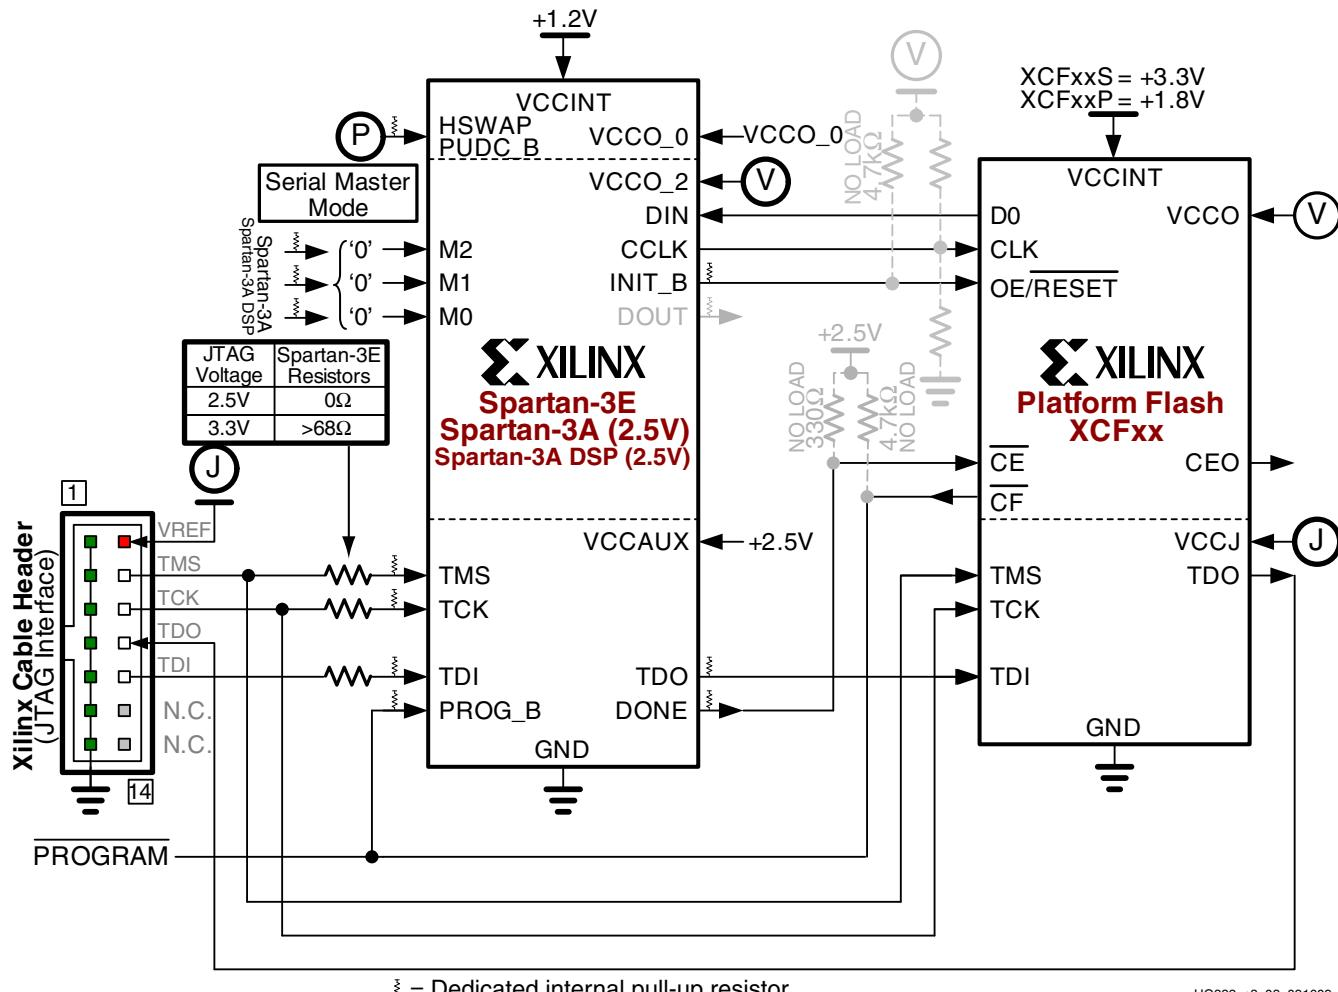
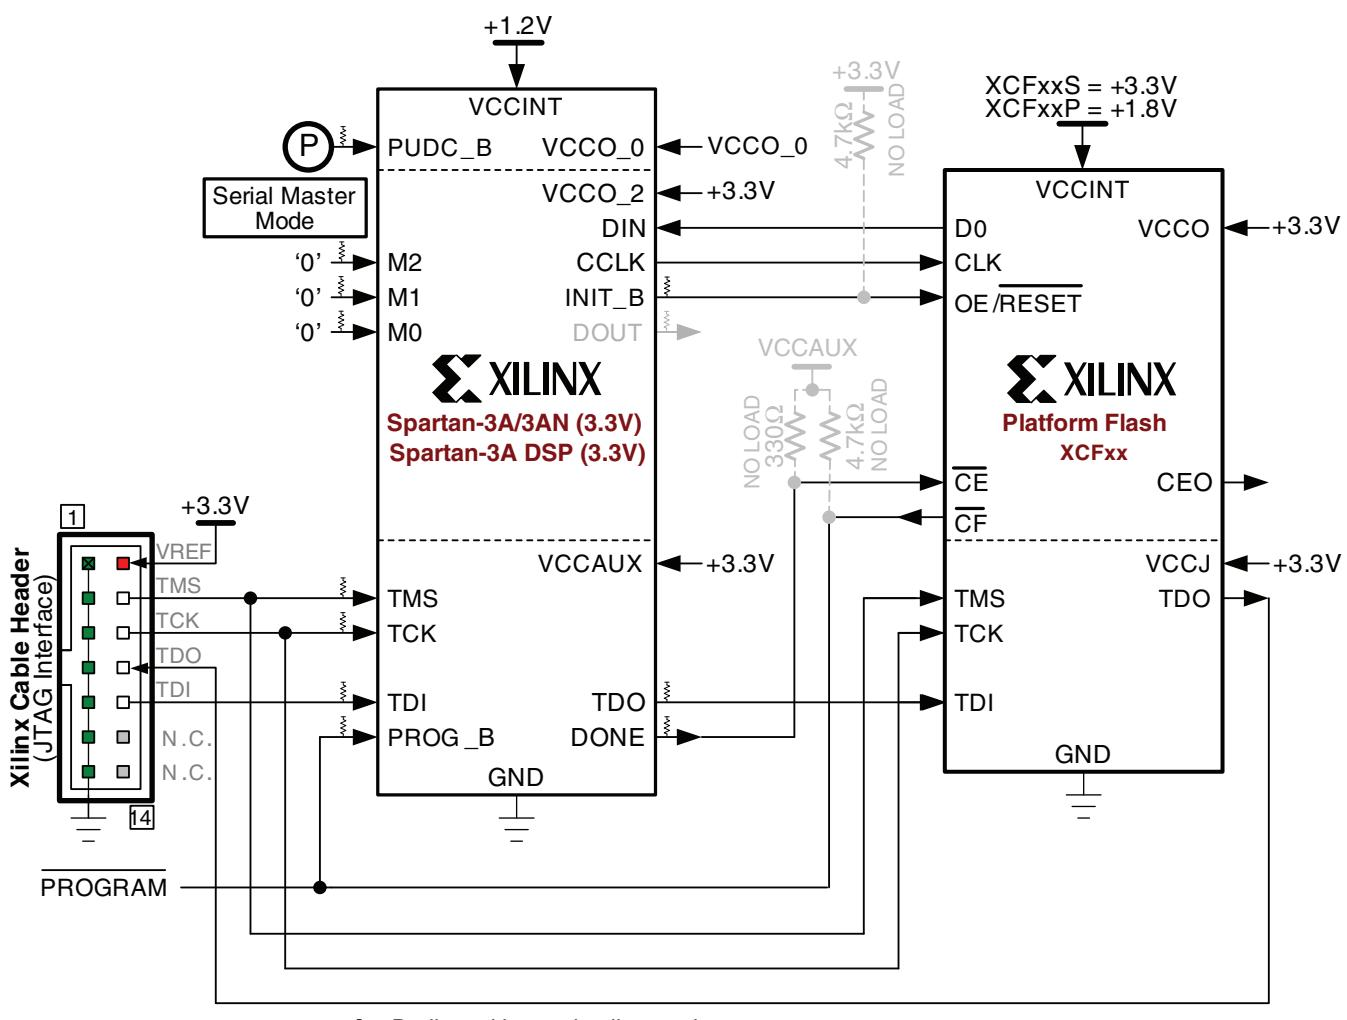
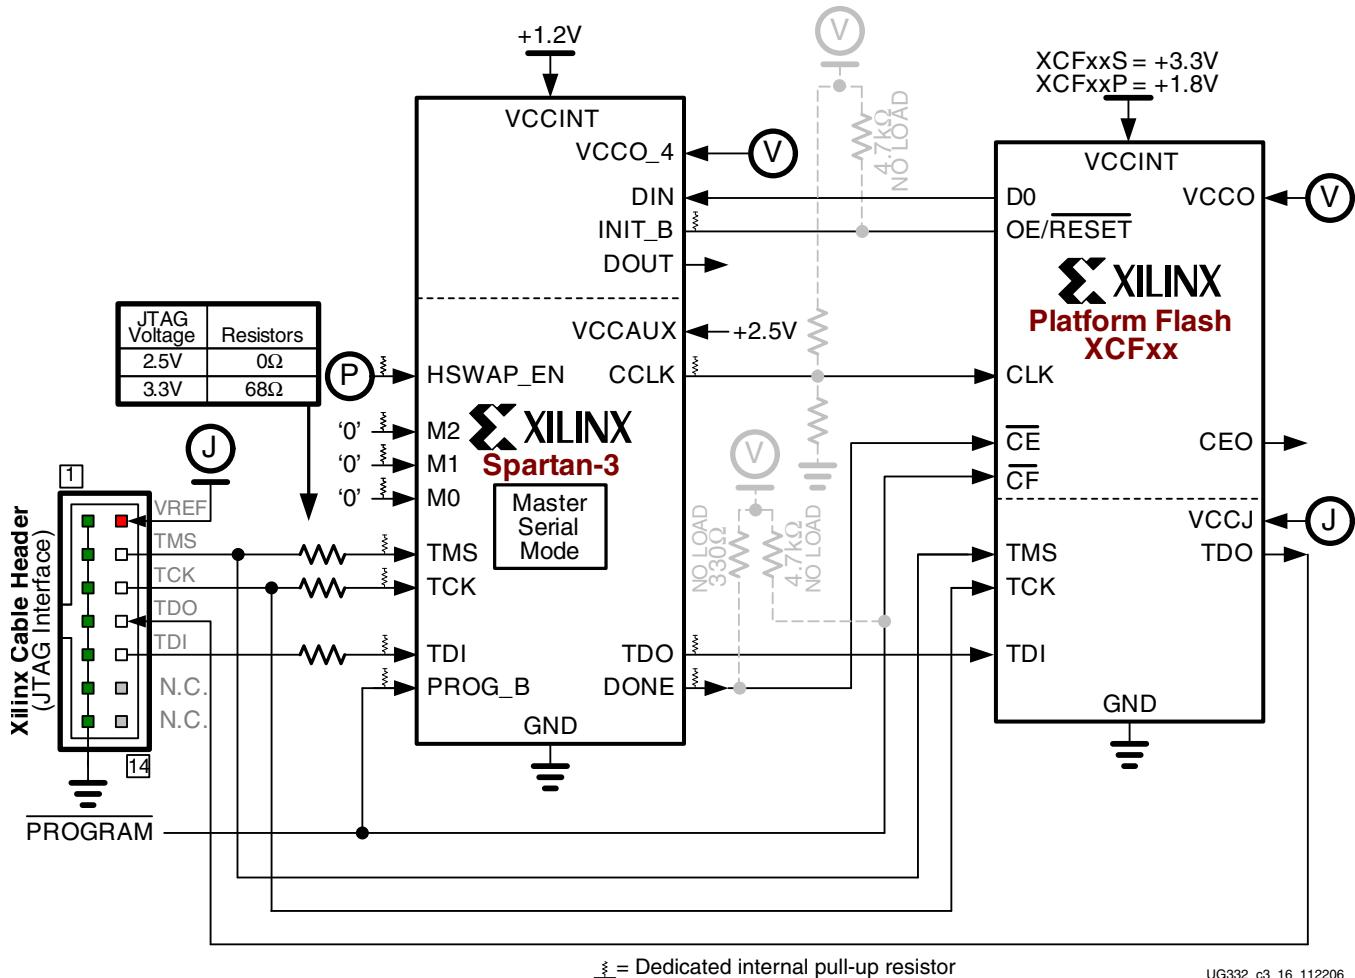

Figure 3-1: Master Serial Mode Using Platform Flash PROM
Figure 3-2: Master Serial Mode Using Platform Flash PROM (Extended Spartan-3A Family FPGA, V_{CCAUX} = 3.3V)
Figure 3-3: Master Serial Mode Using Platform Flash PROM (Spartan-3 FPGA)
In Master Serial mode ([M\[2:0\] = <0:0:0>](#)), the Spartan-3 generation FPGA configures itself from an attached Xilinx Platform Flash PROM, as illustrated in Figure 3-1, Figure 3-2, and Figure 3-3.
- Figure 3-1, page 80 illustrates the Master Serial configuration interface for Spartan-3E and Spartan-3A/3A DSP FPGAs when the FPGA's V_{CCAUX} supply is at 2.5V. Spartan-3E FPGAs always have V_{CCAUX} = 2.5V. Spartan-3A and Spartan-3A DSP FPGAs support both V_{CCAUX} = 2.5V or 3.3V. Table 3-1, page 80 lists the FPGA/PROM connections.
- Figure 3-2, page 81 illustrates the Master Serial configuration interface for Extended Spartan-3A family FPGAs when V_{CCAUX} = 3.3V. Spartan-3AN FPGAs always have V_{CCAUX} = 3.3V. Table 3-1, page 80 lists the FPGA/PROM connections.
- Figure 3-3, page 82 illustrates the Master Serial configuration interface for Spartan-3 FPGAs.